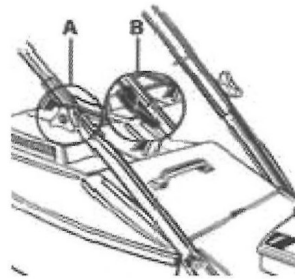

Figure 1. Handle bar pivot bolt knobs and camlocks
- ☒ Loosen the two handle bar pivot bolt knobs (A) (where fitted).
- ☒ Fold the handle bars out straight, in line with the lower handle bars. Tighten the two handle bar pivot bolt knobs (A) or the cam locks (B) to secure the handle bars in position. Refer to figure 1.